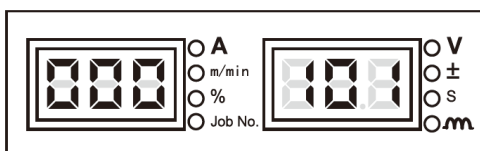

Figure 3-41 Screen for query about versions of software and hardware
2. Press the **Enter** key, and use the knob on the panel of welding power source to query about versions of software and hardware, as shown in Figure 3-41.